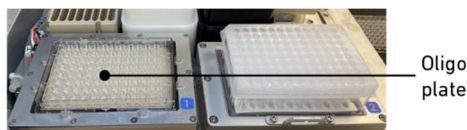

Figure 6. Location of the Oligo Plate after the Run
- Remove the oligo plate (Figure 6) from station 1. Seal the plate and store at -20°C.